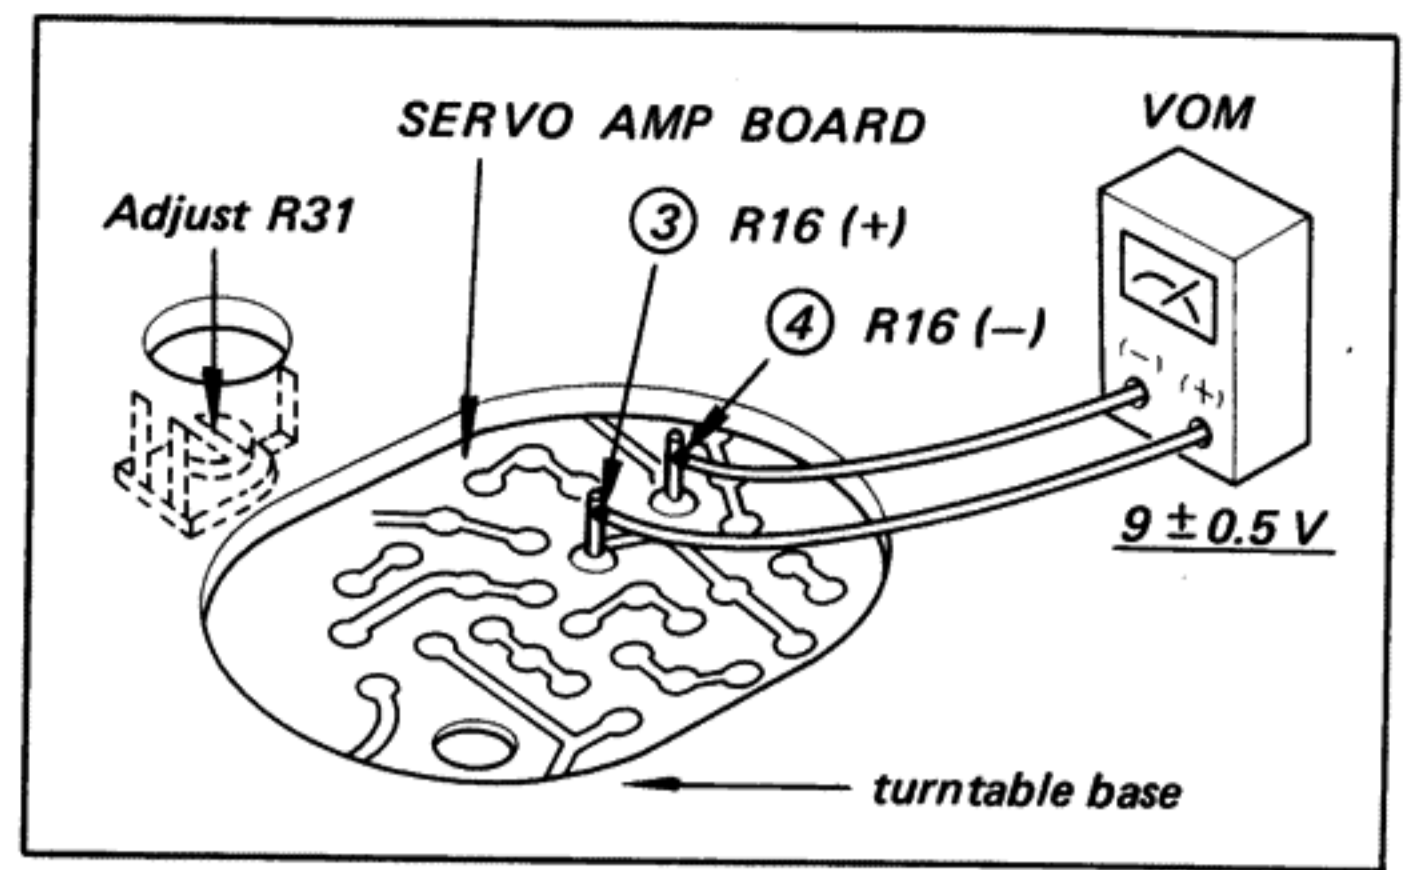

Fig. 3-9. Lamp brightness adjustment when opening shutter completely
3. Connect the VOM across R16 ③ and ④ as shown in Fig. 3-9.
5. Adjust R31 (See Fig. 3-9) so that the VOM reads 9 ± 0.5 V.